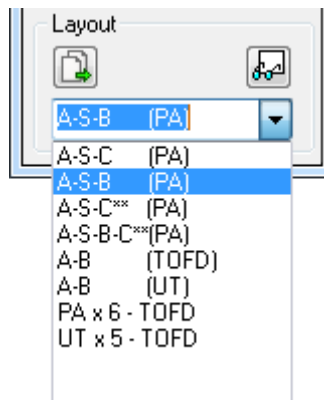

Figure 4-36 The list of available layouts
2. From the list of available layouts, select the most appropriate. See Figure 4-36 on page 262.